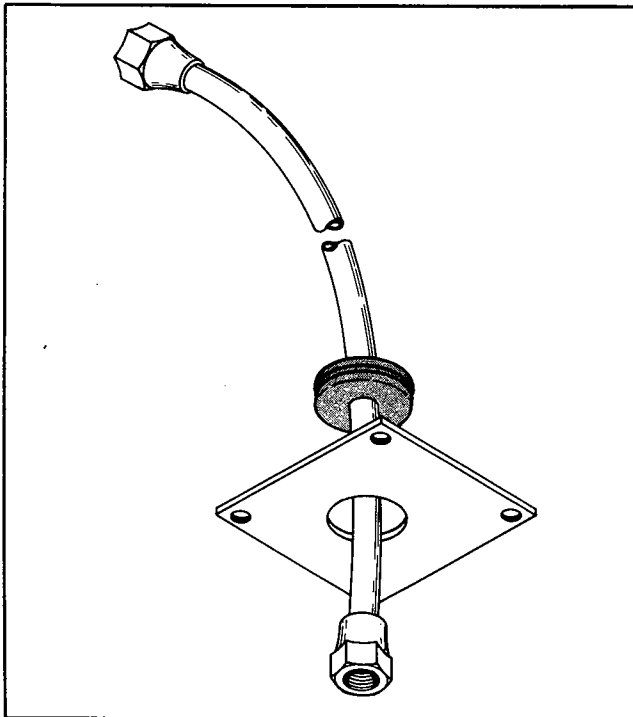

Figure 8. Copper Line, Grommet and Floor Plate
26. Under the trailer, install pre-drilled floor plate onto grommet (figure 8). Remove protective end caps from brass fittings and install lower ends of copper lines on brass fittings. Make sure copper line does not touch edge of hole.